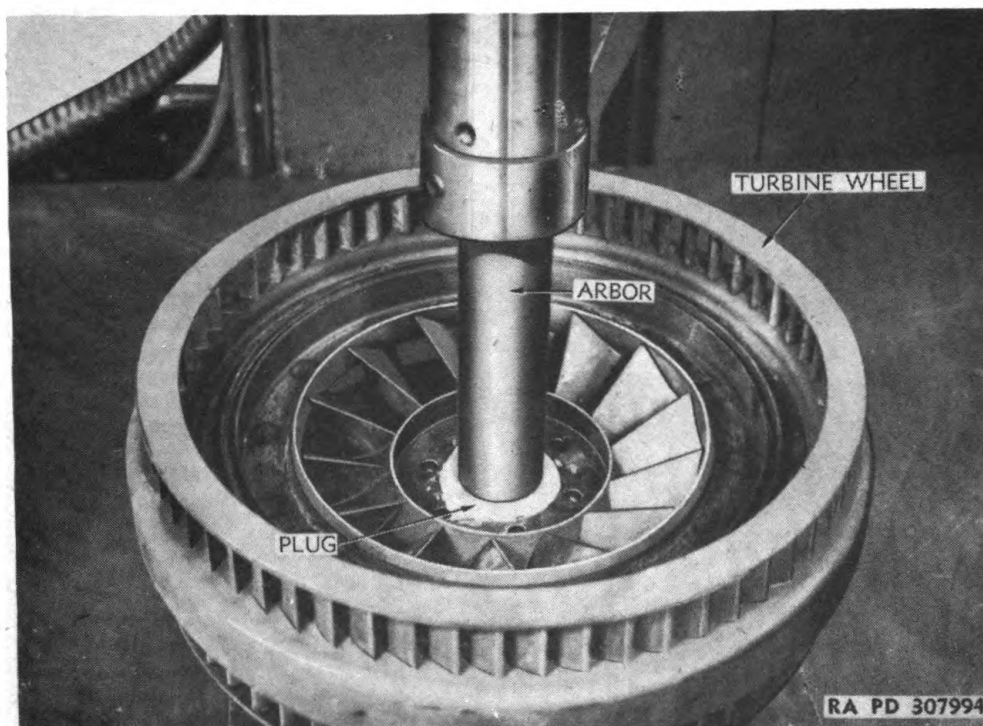
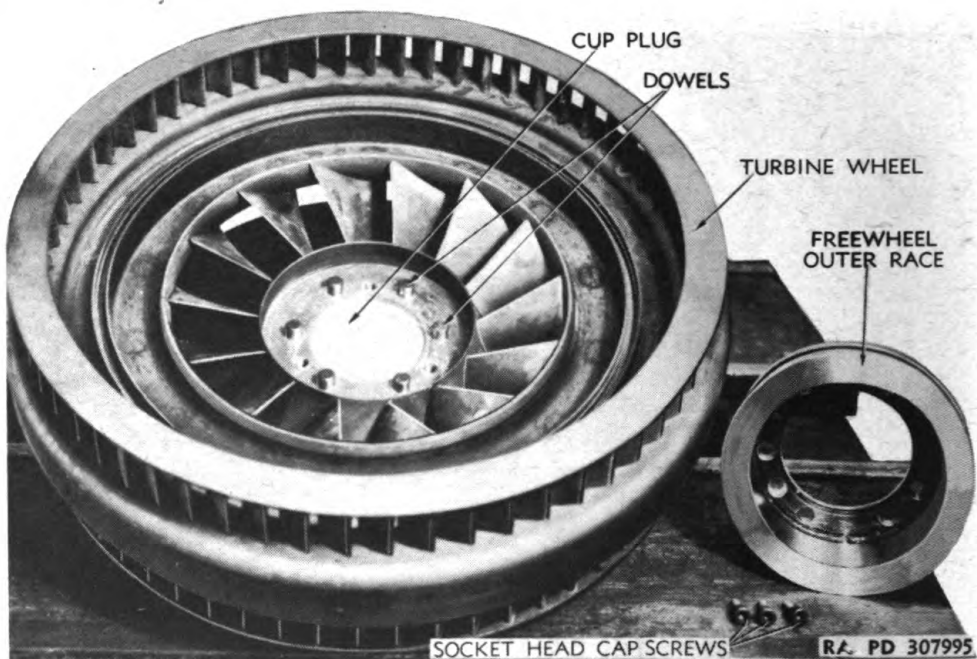
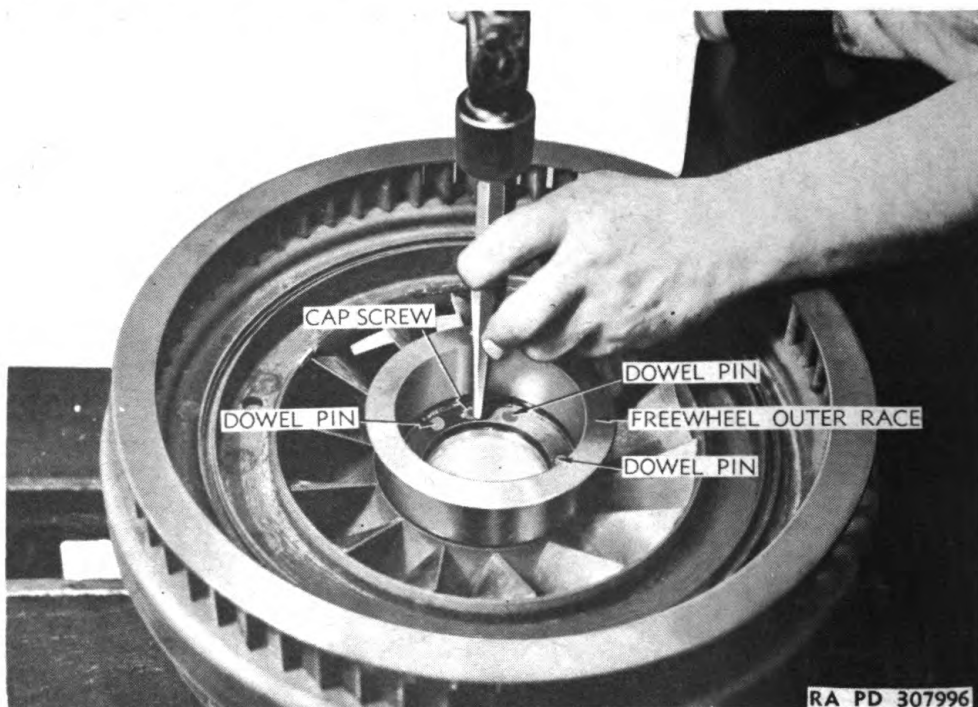

Figure 186 — Pressing Cup Plug Into Turbine Wheel
Figure 187 — Cup Plug and Dowels Installed in Turbine Wheel
Figure 188 — Locking Free-wheel Outer Race Retaining Screws
g. Install Free-wheel Outer Race on Turbine Hub. Place turbine wheel on bench as shown in figure 186. Coat the edges of the turbine wheel cup plug with white lead and press plug into position shown in illustration. Wipe off excess white lead. Insert the six dowels in turbine hub to receive free-wheel outer race (fig. 187). Place race on the six pins as shown in figure 188 and secure it with the three knurled socket head cap screws. The race will fit in only one position, the holes having been spaced unequally to assure assembly in proper relationship. When cap screws have been completely tightened, use a punch to distort the metal adjacent to the screw heads, thus locking the screws.